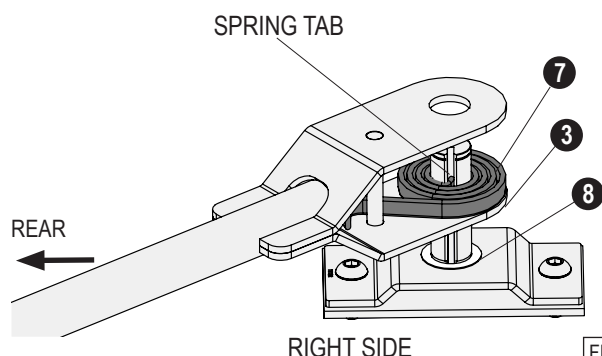
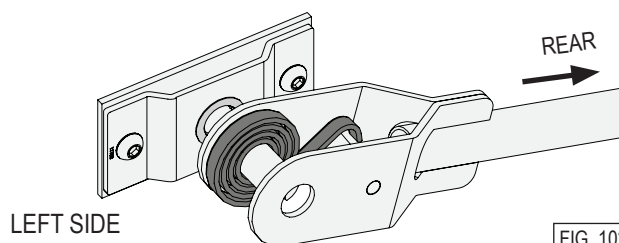

FIG. 101
FIG. 102
- Install a **bushing (8)** onto the pivot pin.
- Slide the first **lower arm plate (3)** onto the pivot pin.
- Install the **springs (7)** one at a time. Ensure each **spring tab** inserts into the pivot pin slot. Align the arm plates and springs as shown for the right side in Figure 101 and the left side in Figure 102.